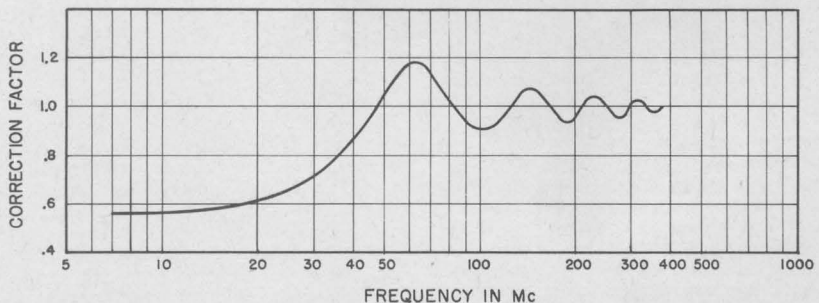
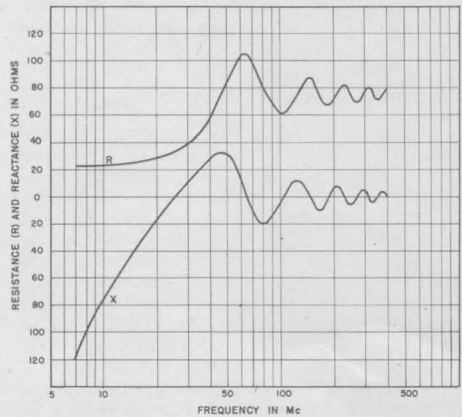

FIGURE 2. Plot of correction factor for output voltage as a function of frequency.
FIGURE 4. Resistive (R) and reactive (X) components of output impedance.
frequencies the output voltage at the far end of the output cable is practically the same. For lower frequencies a correction has to be applied. The output impedance approaches 75 Ω at the high-frequency end and corresponds to 185 μf at low frequencies (100 in the output and 85 μf in the cable). Correction factor and output impedance plotted against frequency are shown in Figures 2 and 3, respectively. The resistive and reactive components of the output impedance are shown in Figure 4.
2.6, the output voltage then is correct for the open circuit condition at the output jack and for the open circuit condition at the end of the 3-foot output cable for high frequencies. For low frequencies, particularly below 50 Mc, the correction factors shown in Figure 2 must be used.